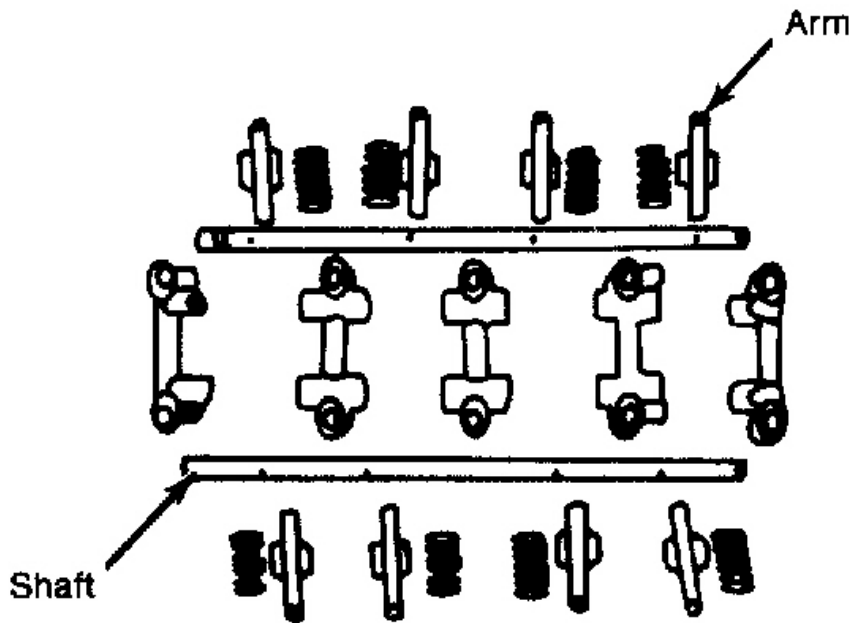

Fig. 4: Disassembled View of Rocker Arm Assembly
2. If clearance exceeds maximum limit, replace rocker arms and/or shafts. Reassemble in reverse of disassembly, noting that all rocker arms are identical, but that all rocker stands are different. See **Fig. 4**.